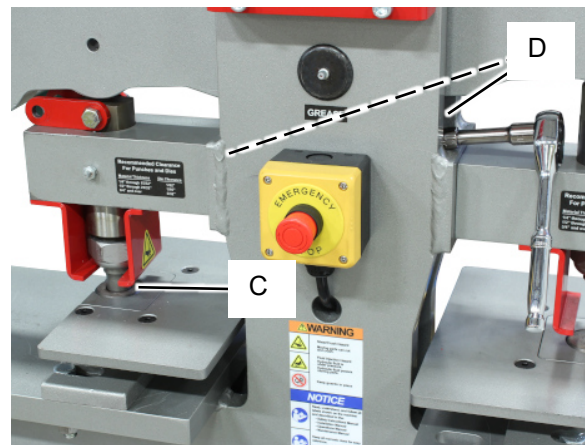

Figure 9
8. Place the punch table and the punch block on the frame table. Allow the punch to engage the die and assist in alignment. It is recommended to use the 1" punch and die set. (Fig. 9, C)
9. Install the four hex head screws and using the 9/16" socket wrench with extension to install and tighten the cap screws. (Fig. 9, D)